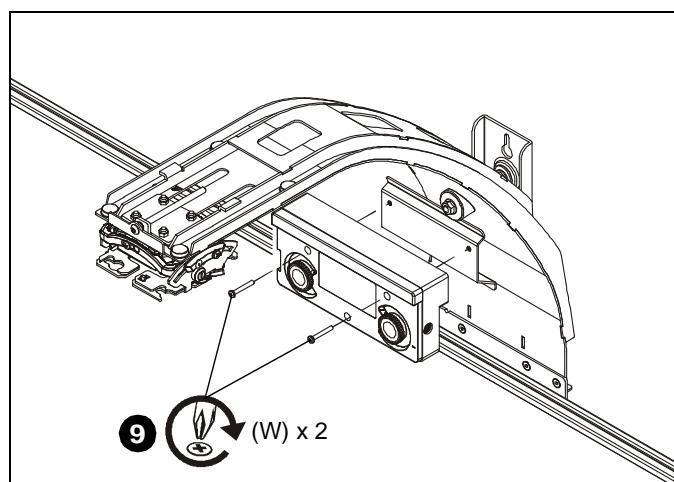

Figure 9
9. Attach sensor to boom arm bracket using two M4 x 30mm Phillips cap head screws (W). (See Figure 9)